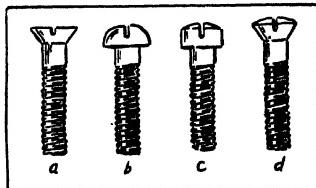

Fig. 231. Machine-screws. a. Flat-head.
*Machine-screws*, Fig. 231, are similar to stove-bolts, but are accurately cut and are measured with a screw-gage. The varieties are, *a*, flat-head, *b*, round-head, *c*, fillister-head, *d*, oval-countersunk-head, all with slots for screwdriver.